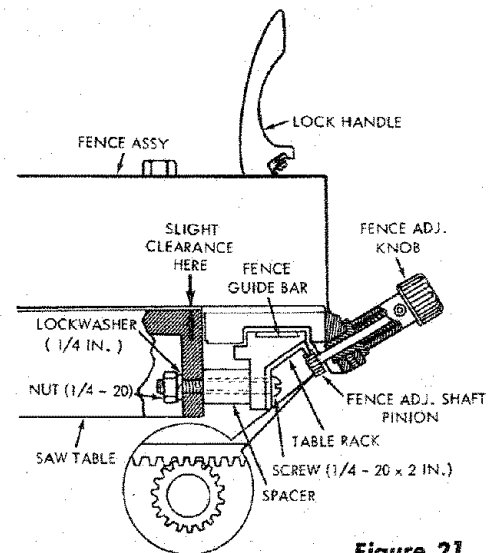
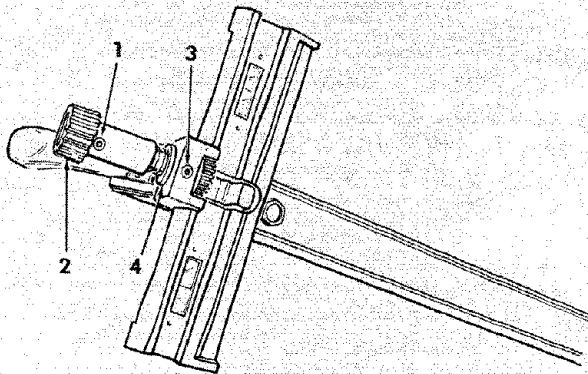

Figure 21
Figure 22
- (1) Check for correct engagement (mesh) of teeth on fence adjusting shaft pinion with the gear teeth in lower edge of rack. (See figure 21.) The pinion should be adjusted up or down so that
gear teeth are in full contact lengthwise and meshed as far as possible, just short of binding. This adjustment is made as follows: Push the fence adjusting knob all the way down, and lock underneath the rack to determine if the pinion and rack teeth are aligned. (See figure 21.) If the pinion extends too far (or not far enough) loosen the set screw (1, figure 22) with a 5/32-inch hex-L wrench and slide the knob assembly on the pinion shaft (up or down) to achieve proper alignment. Tighten the set screw (1, figure 22).
- (2) Adjust gear mesh (depth of tooth contact) by loosening the set screw (3, figure 22) with a 5/32-inch hex-L wrench and rotate the eccentric (4, figure 22) until proper mesh is obtained. Tighten the set screw after adjusting. Check for proper operation at various points along the rack.